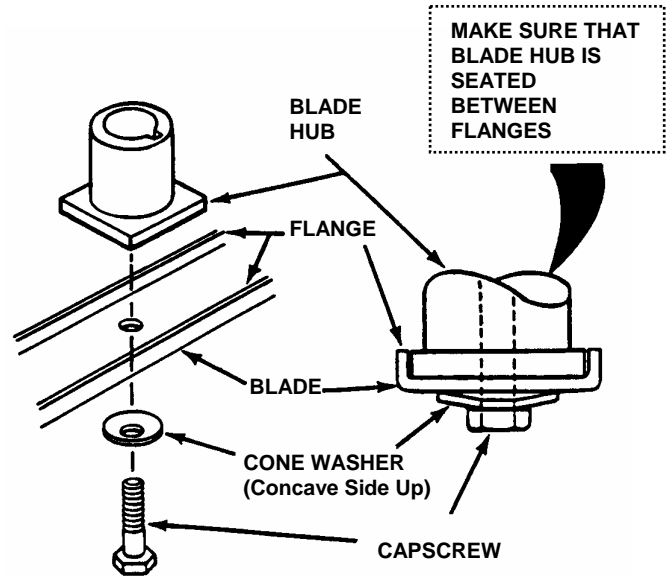

FIGURE 4.3
3. Remove blade. See Figure 4.3.
- Reinstall blade. See Figure 4.3. Check torque of blade retaining cap screw. Recommended torque should be 40 ft. lbs.